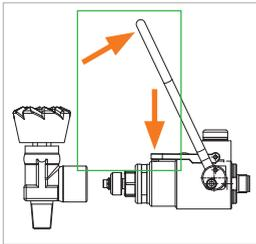

Figure 4
- ▶ Press and hold down the locking device (Pos. 8) and then fold the actuation unit (Pos. 1) upwards (*Figure 4*). The clamping jaws will close together.